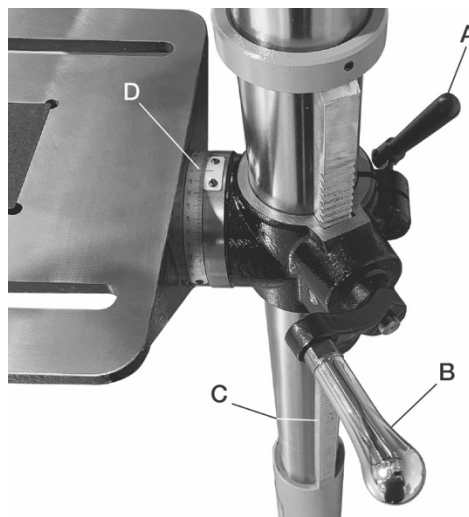

Figure 8-1
Loosen table locking handle (A, Figure 8-1). Turn crank handle (B) to raise or lower table along column rack. Re-tighten locking handle (A) before attempting to drill.
Refer to Figure 8-1.
1. Loosen hex screw (E) to pivot table to desired angle. Refer to scale and indicator plate (D, Figure 8-1). Tighten hex screw (E) after setting desired angle.